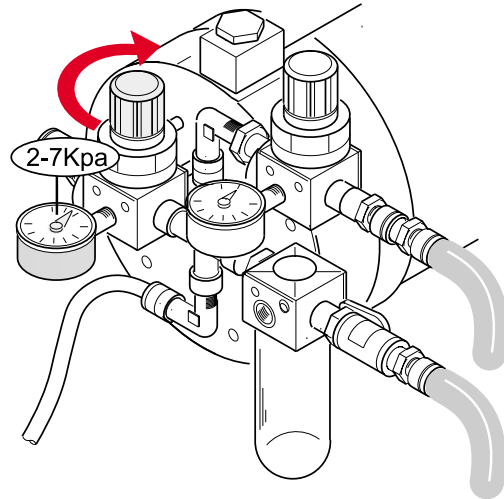

Fig.32
9) At this point according to the viscosity of the product take the air pressure between 2 and 7 Kpa by rotating the regulator ring nut in a clockwise direction (fig. 32).